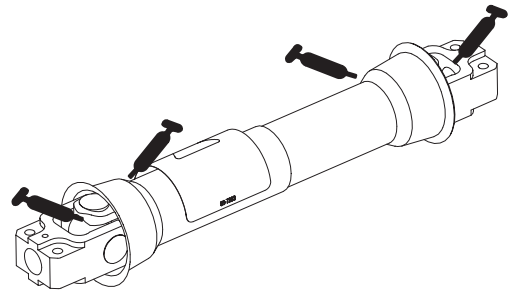

Figure 10
Under normal conditions, grease the (2) drive shaft fittings (Fig. 10) after every 100 hours of use and guards after every 8 hours of operation. Use a No. 2 Lithium based grease.